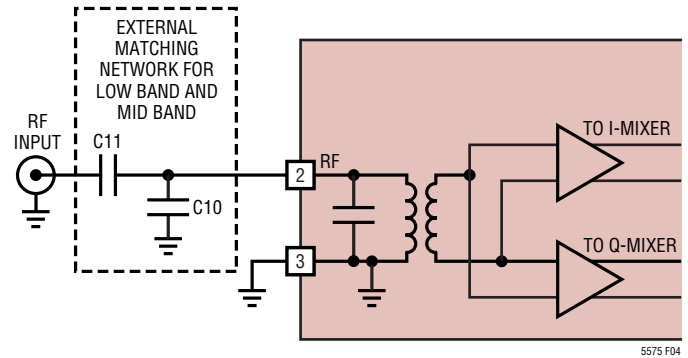

Figure 4. RF Input Interface
**RF (Pin 2):** RF Input Pin. This is a single-ended 50Ω terminated input. No external matching network is required for the high frequency band. An external series capacitor (and/or shunt capacitor) may be required for impedance transformation to 50Ω in the low frequency band from 800MHz to 1.5GHz (see Figure 4). If the RF source is not DC blocked, a series blocking capacitor should be used. Otherwise, damage to the IC may result.
Figure 4 shows the demodulator's RF input which consists of an integrated transformer and high linearity transconductance amplifiers. The primary side of the transformer is connected to the RF input pin. The secondary side of the transformer is connected to the differential inputs of the transconductance amplifiers. Under no circumstances should an external DC voltage be applied to the RF input pin. DC current flowing into the primary side of the transformer may cause damage to the integrated transformer. A series blocking capacitor should be used to AC-couple the RF input port to the RF signal source.
The RF input port is internally matched over a wide frequency range from 1.5GHz to 2.7GHz with input return loss typically better than 10dB. No external matching network is needed for this frequency range. When the part is operated at lower frequencies, however, the input return loss can be improved with the matching network shown in Figure 4. Shunt capacitor C10 and series capacitor C11 can be selected for optimum input impedance matching at the